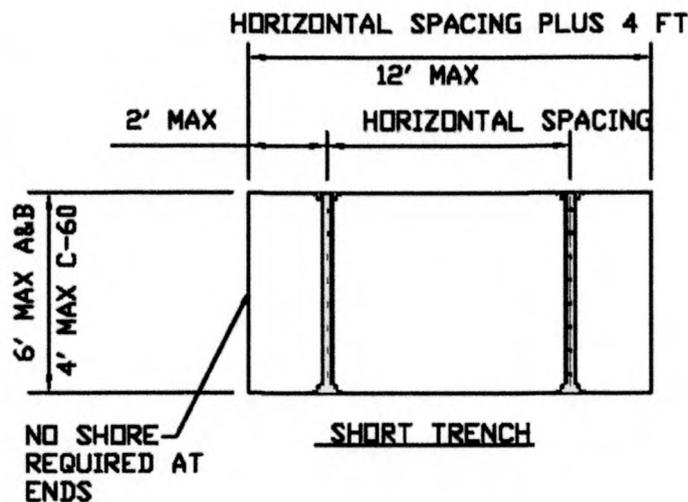

Figure 3. - Short trench, See Note 10
10. Trenches maximum 12 ft long or horizontal spacing 4 ft or less shall have a minimum of 2 shores set in accordance with spacing requirements. Longer trenches shall have a minimum of 3 shores set at required spacing. See **Figure 3**.